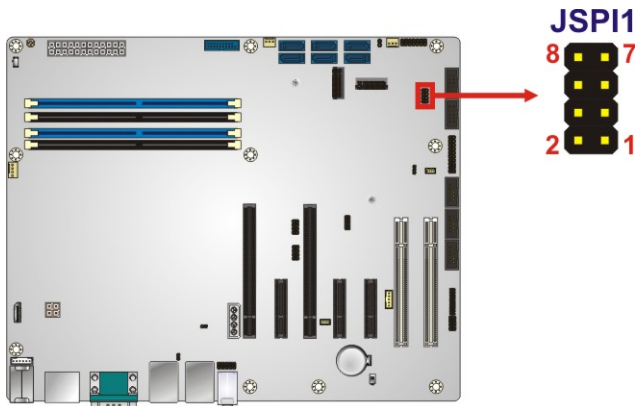

Figure 3-28: SPI Flash Connector Location
- CN Location:** See **Figure 3-28**